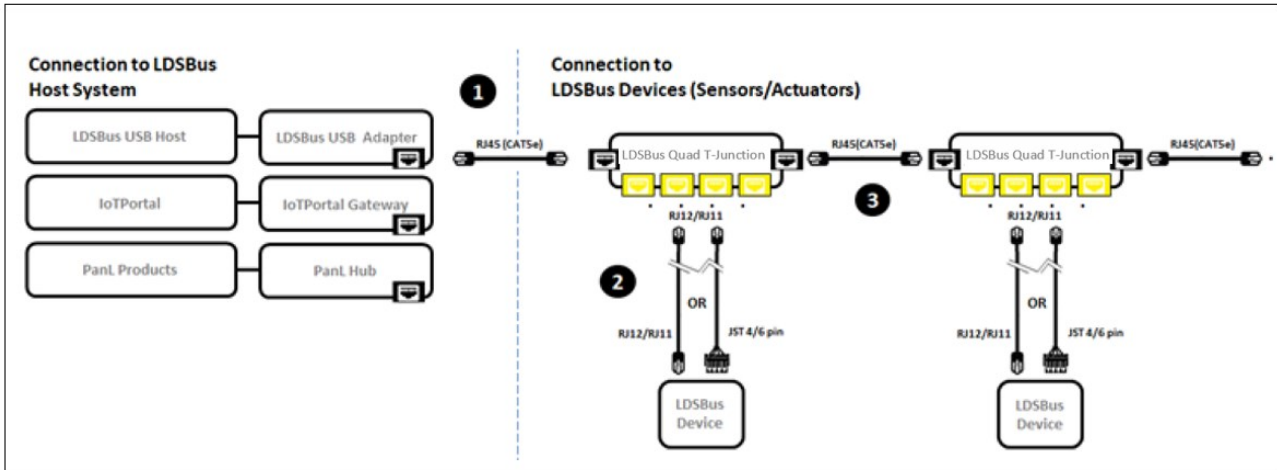

Figure 2 - LDSBus pH Sensor Adapter to LDSBus - Connection Diagram
Figure 2 illustrates the connection of the LDSBus pH Sensor Adapter (LDSBus Device) to the LDSBus. Please visit <https://brtsys.com/resources> to view the full device application, setup, and installation guides.
2. Connect the configured LDSBus pH Sensor to the LDSBus Quad T-Junction as shown in Figure 2.
3. If there is more than one LDSBus Quad T-Junction, chain them together as shown in Figure 2.